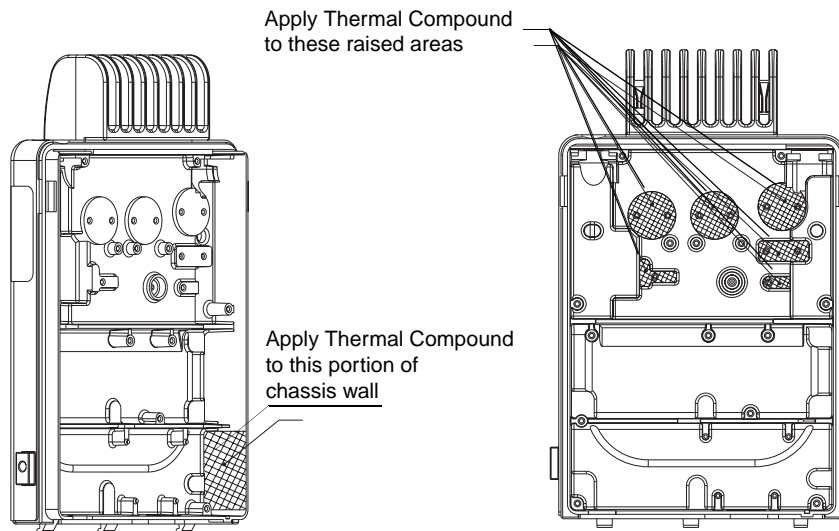

Figure 5-19. Wakefield / Thermal Compound Application Area
1. Inspect and reapply a thin coat of thermal compound as necessary to the heatsinking pads, voltage regulator and Audio PA areas in the chassis per Figure 5-19. A thick coat of thermal compound may negatively effect heat sinking.